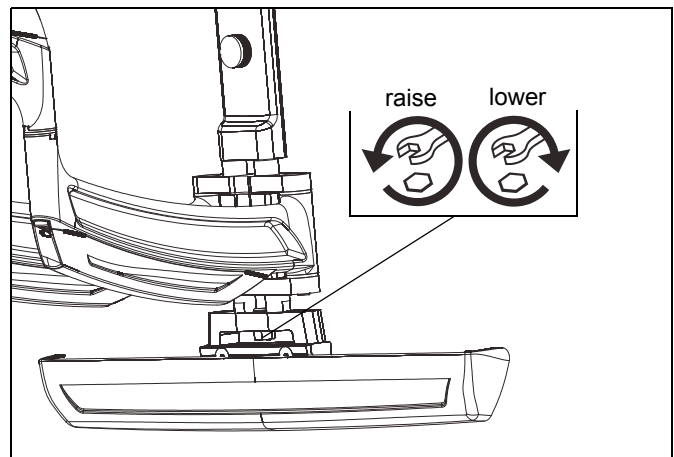

Figure 21
2. Adjust height adjustment wrench to raise or lower mount to desired height. Turn counter-clockwise to raise mount and clockwise to lower mount. (See Figure 21)